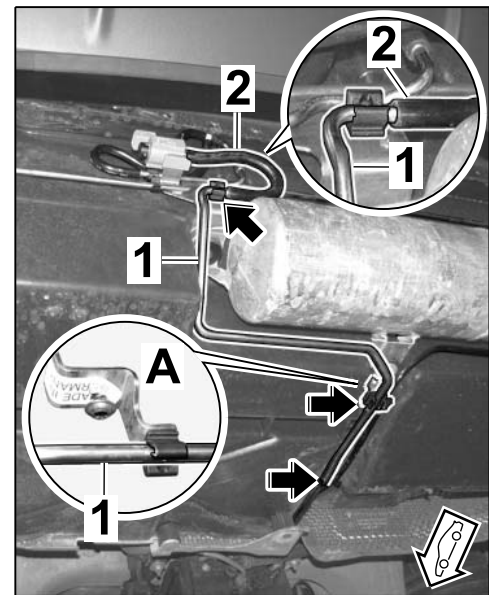

Figure 21
- 2.2.5 Insert control line at least 10 mm into the change-over valve hose and clips (3 ea.) (⇒ Figure 21)